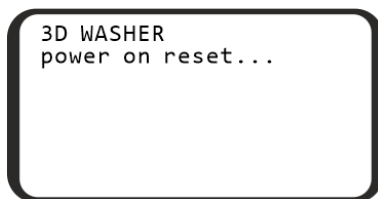

Figure 6. Initialisation screen
- When switched on, the unit performs full initialisation cycle and displays the message "Power on reset" (figure 6)